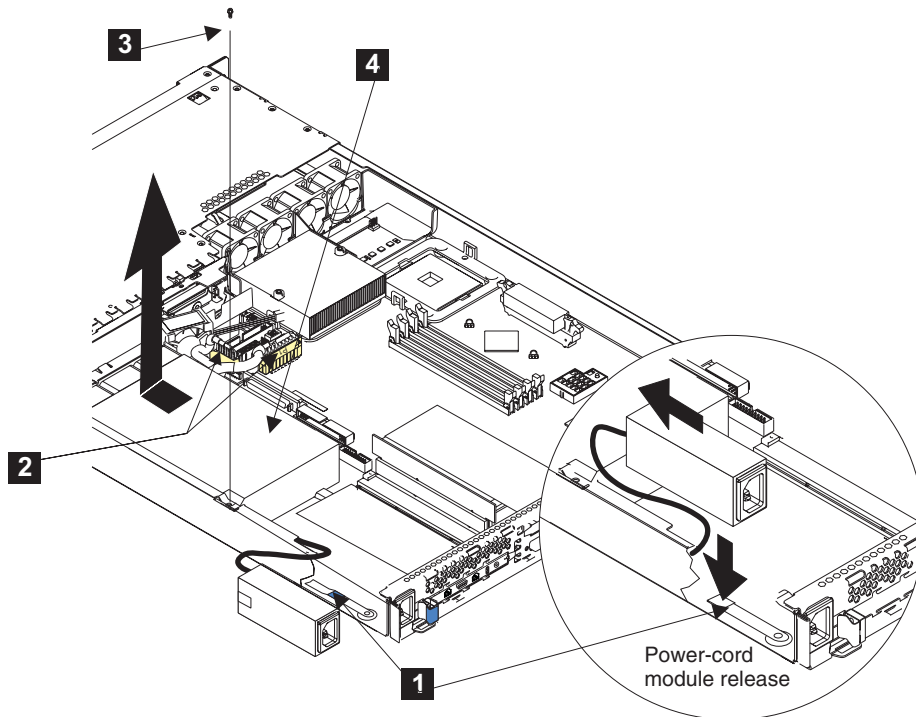

Figure 133. Replacing the SAN Volume Controller 2145-4F2 power supply
1. Slide the power supply **4** into the SAN Volume Controller 2145-4F2, as shown in Figure 133.